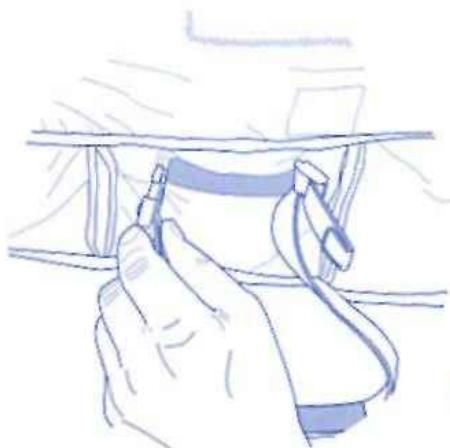

Fig. 7a
- f. From back of seat pad, insert the waist security straps through slots of fabric seat. As shown in Fig. 7a.